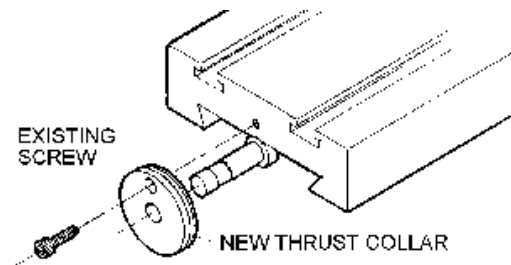
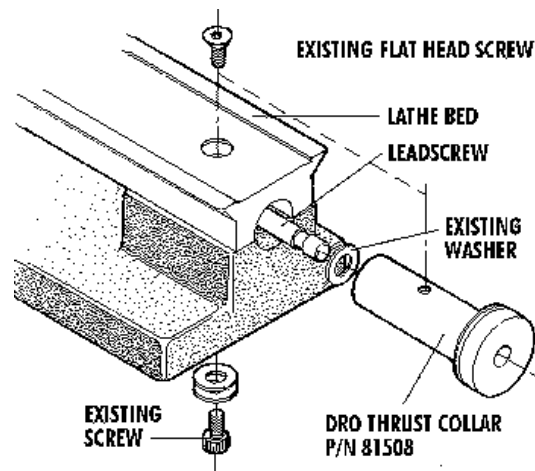

FIGURE 1A--Installing the new thrust collar on the crossslide screw.
FIGURE 1B--Installing the new thrust collar and existing washer on the lead screw.
4. Using a 3/32" hex wrench, remove the 5-40 screw holding the thrust collar over the crossslide and remove the collar. (See Figure 1A.) Use a 1/8" hex wrench to remove the countersunk screw in the top of the lathe bed and a 5/32" hex wrench to remove the socket head cap screw under the lathe base so that the collar can be removed from the leadscrew. (See Figure 1B.)